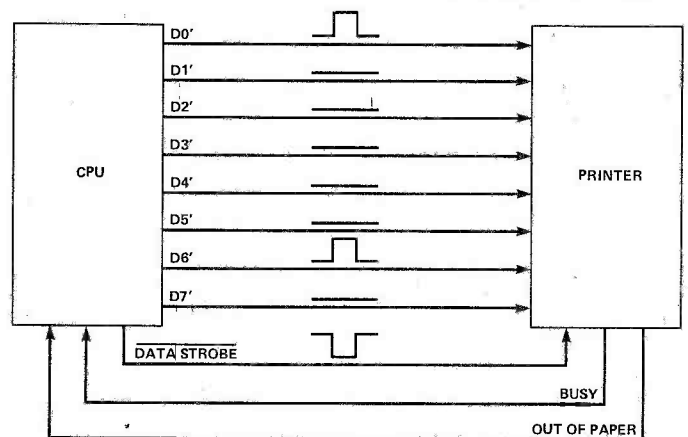
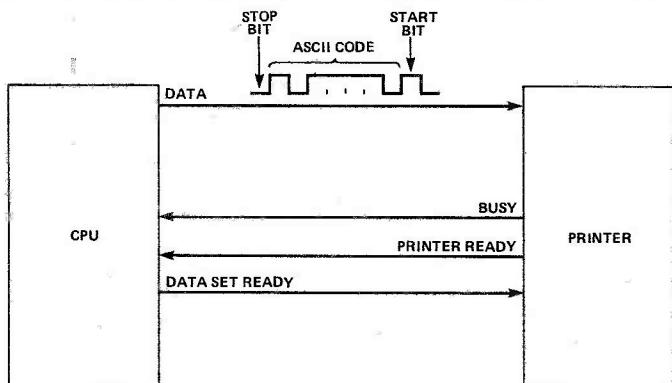

Fig. 12 Parallel data transfer between computer and printer.
Fig. 13 Serial transfer of data between computer and printer.
There are two main ways in which a computer and printer may be connected. The parallel transfer of data is illustrated in Fig. 12. An example of this system is the Centronics interface, originally devised by manufacturers of Centronics printers but now adopted by many other manufacturers. The first point to note is that there is two-way communication, in contrast with the one-way communication between computer and monitor. This is a consequence of the relatively slow speed of a printer. A computer can instruct a printer far faster than the printer can print. Rather than have the computer waste its valuable time waiting for the printer to operate letter by letter, we let the computer send a long string of commands to the printer in rapid succession. Since there are eight data lines, the computer can send a byte at a time. This is normally the ASCII code for the letter required. The printer can also interpret ASCII control characters for operations such as line feed (LF) and carriage return (CR). Whenever the computer is outputting data it makes the DATA STROBE line low. This has the same function as the WR control line used internally, and is derived almost directly from it. Similarly, the data lines are separated from the data bus of the computer only by latches, which hold the data long enough for the printer to be able to receive it. In some micros a general-purpose I/O device is used for this purpose (see Designing Micro Systems, ETI December 1982).
In Fig. 12 the pulses drawn above the parallel data lines indicate that the computer is sending 0100 0001 (or 65 decimal, the ASCII code for 'A'). In Fig. 13 the same ASCII code is being sent serially along one data line. Sending eight bits one after another is obviously slower than sending them in parallel, a byte at a time, as in Fig. 12, but since printers are relatively slow this is not a great disadvantage.